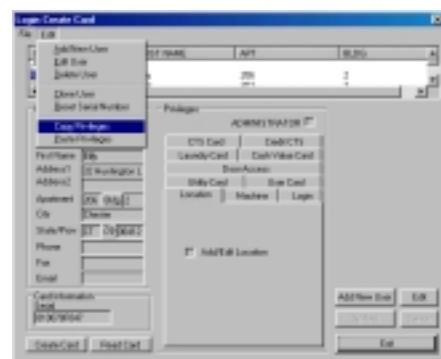

Figure 4.19 Copying Privileges
3. Select Copy Privileges from the Edit drop-down menu (Figure 4.19).